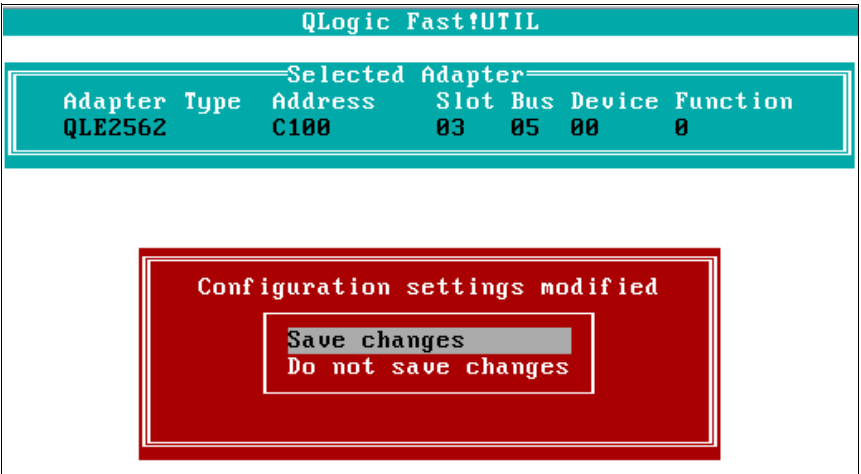

Figure 5-54 Save configuration changes
12. Press the <Esc> key twice to exit out of the menus and select **Save Changes** to save the changes, as shown in Figure 5-54.